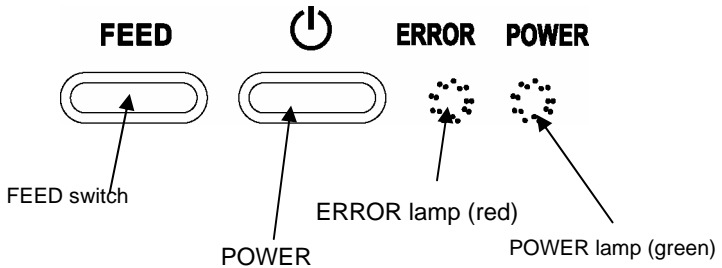

Figure 17 Switches and Lamps on Printer
2. Press the POWER switch on the printer while also pressing the FEED switch. (See Figure 17.)
3. The POWER lamp will light and the test print will start. (See Figure 17.)
To turn OFF the printer, press the POWER button shown in Figure 17 for three or four seconds.